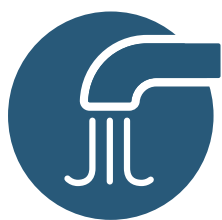

Fig. 16
2. Press the Bathtub filling ON/OFF button to start filling. See Fig.16.